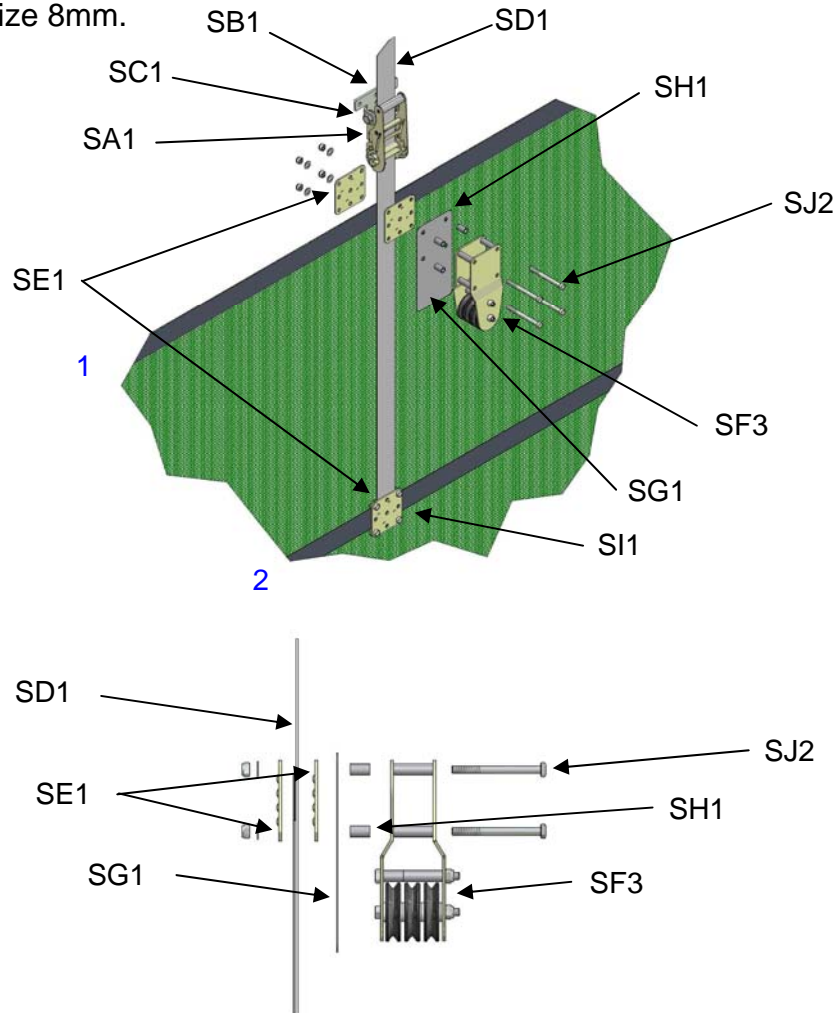

Figure 29
8.6 Replacing Section 5.2: Fix the Ratchet (SA1) to the Ratchet Bracket (SB1) with the M12 x 90mm bolt (SC1) provided. The standard fitting of the ratchet bracket is depicted in Figure 29, but it can be reversed if vertical mounting space is limited. Fit assembly to the building with three fixings, minimum size 8mm.
8.7 Replacing Section 5.3: Referring to Figure 29. Fix vertical webbing strap (SD1) to second strap down on the door using the Clamp Plates (SE1) and M8 x 20 Bolts (SI1) provided. Repeat process on top strap but use the M8 x 90 Bolts supplied (SJ2) and include the Wire Support Assembly (SF3), Spacers (SH1) and Wire Support Protection Pad (SG1). Feed webbing through ratchet and ensuring a minimum of 150mm of webbing is around the ratchet barrel operate handle to lift the door. Continue to adjust ratchet until top of door is level.